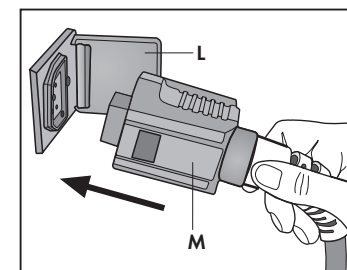

Fig. 8
- Open the flap (L) and introduce the quick connection (M) of the work hose in the accessories socket. Push in as far as it will go. (Fig. 8).